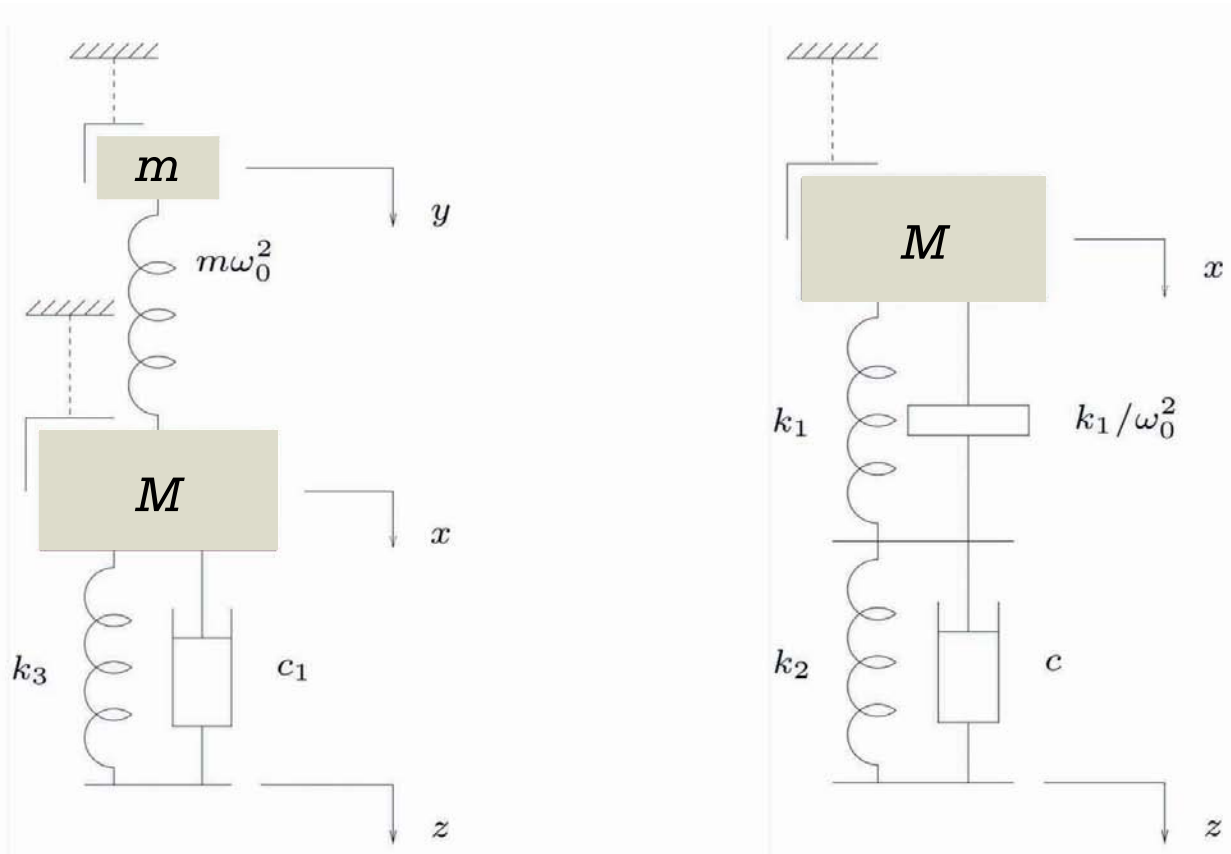

FIGURE 2
In **Figure 2**, the mass damper (m) is attached to the sprung mass (M) and uses its inertia relative to its position in space to exert an opposing force on the main mass to calm its motion. In contrast, the inerter in **Figure 3** between the mass and the exciting force can absorb and return mechanical energy in harmony with and opposing its movement.